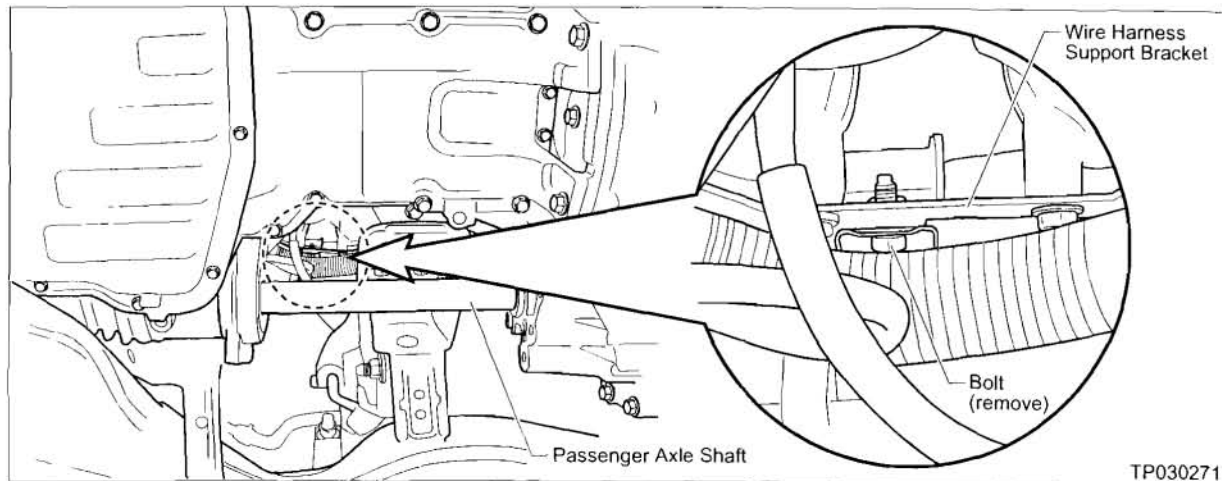

Figure F11
- Remove one bolt to release the Wire Harness Support Bracket (see Figure F11).